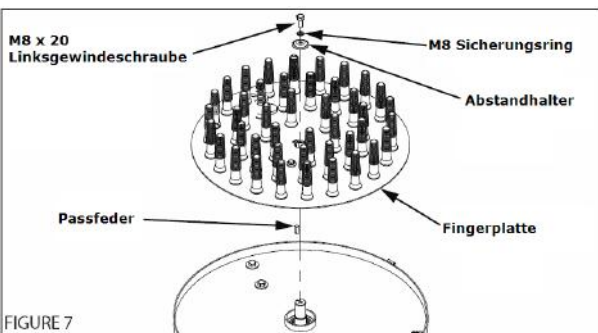

FIGURE 7
7. Mount the finger plate equipped with fingers back onto the motor shaft (**FIGURE 7**). Insert feather key into the motor shaft, slide on finger plate and fix with screws (M8x20 LEFT THREAD!).